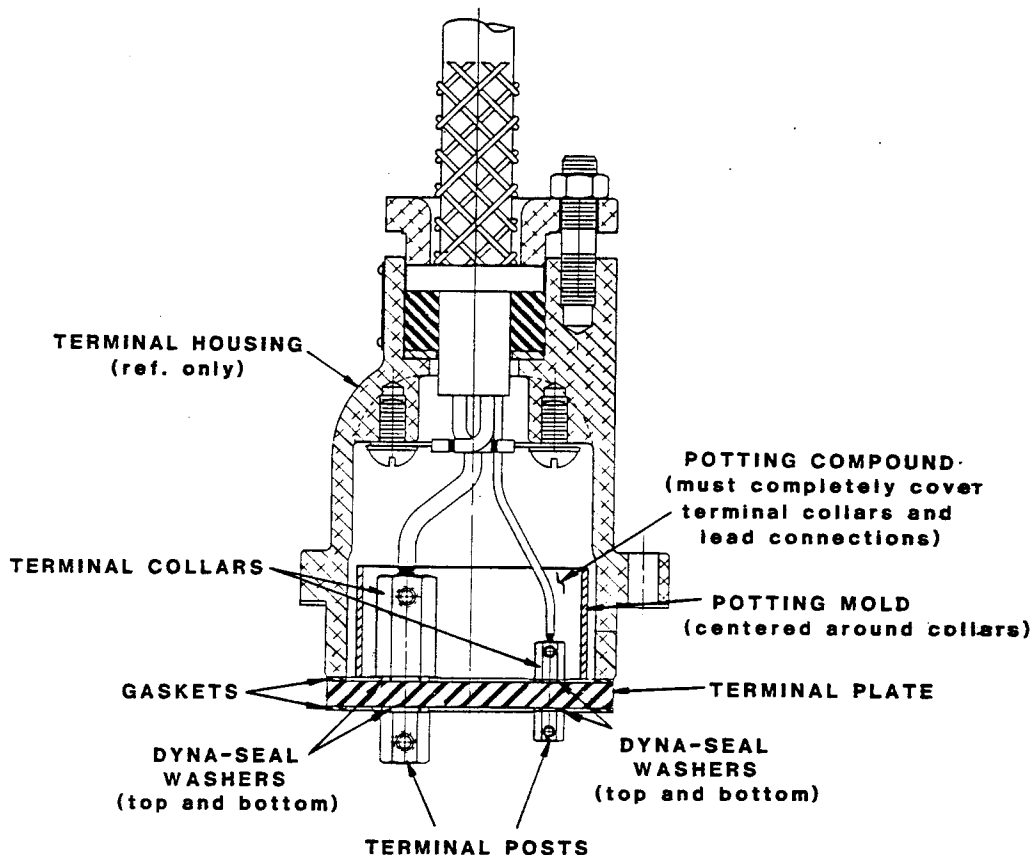

Figure 5. Potting Power Cable Leads In Terminal Housing
When shipped from the factory, the cable leads and terminal collars were encapsulated in heat-shrink tubing (36 and 51), and bonded to the terminal plate (57) with hot-melt adhesive to provide a water-tight seal. These materials are included in an optional repair kit listed in the parts list; however, since a glue gun with the required temperature range is not generally available in the field, it is recommended that a commercially available repotting kit (Products Research Corp., part no. PR-1201-Q Class 1 potting compound, or equivalent) be used to reseat the connections. See Figure 5 and the following instructions: